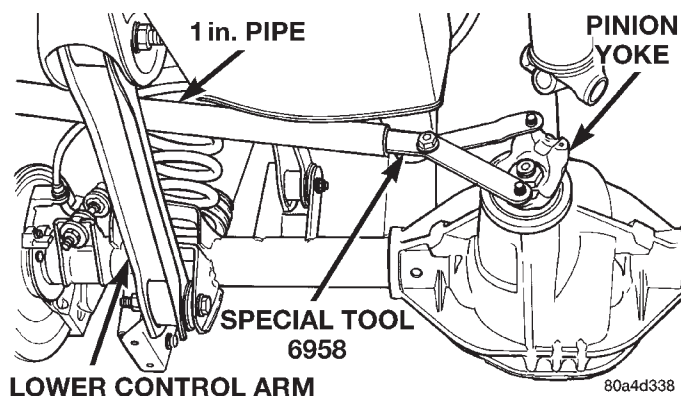

Fig. 7 Pinion Yoke Holder
- (1) Raise and support the vehicle.
- (2) Remove wheel and tire assemblies.
- (3) Remove rear brake rotors and calipers. Refer to Group 5, Brakes, for proper procedures.
- (4) Mark the propeller shaft and pinion yoke for installation reference.
- (5) Remove the propeller shaft from the yoke.
- (6) Rotate the pinion gear three or four times.
- (7) Measure the amount of torque necessary to rotate the pinion gear with a (in. lbs.) dial-type torque wrench. Record the torque reading for installation reference.
- (8) Using a short piece of pipe and Holder 6958 to hold the pinion yoke, remove the pinion nut and washer (Fig. 7).